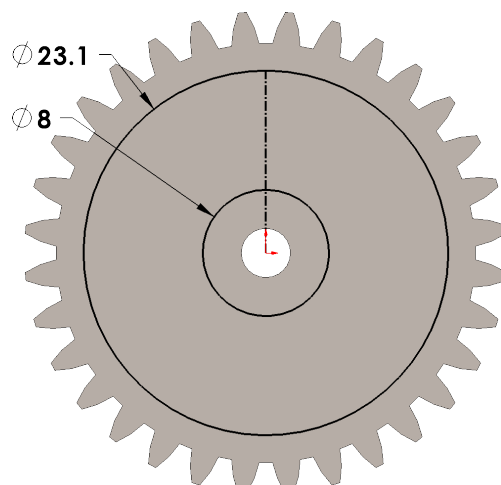
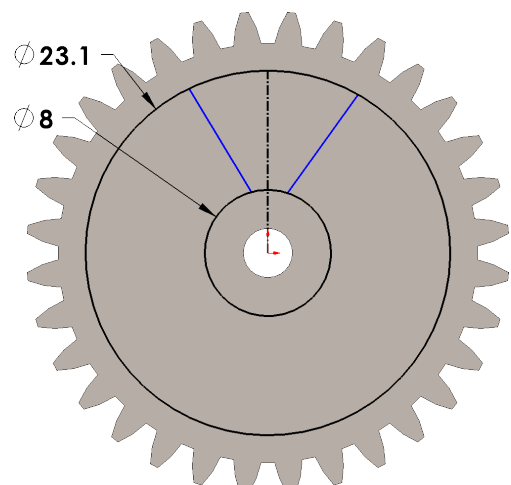

Fig. 9
Fig. 10
Step 7. Sketch a **vertical centerline from the Origin**  **up to outside circle**, **Fig. 9**.
Step 8. Click **Line**  (L) on the Sketch toolbar.
Step 9. Sketch **two lines at angle to both circles**, **Fig. 10**.